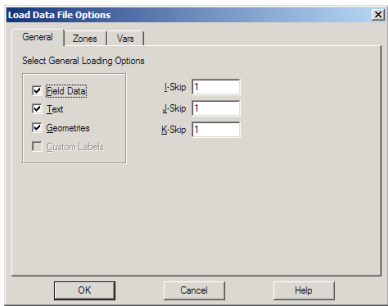

Figure 5-3. The General page of the Load Data File Options dialog.
3. Click Open. The Load Data File Options dialog appears, as shown in Figure 5-3.
5.1.1.2. Data File Loading General Options. On the General page (Figure 5-3), you have the option to load a subset of record types or load only portions of the data.